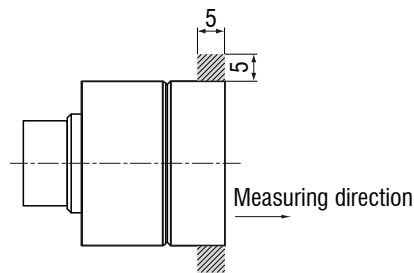

Fig. 5 Free space with no metallic conductive objects
**➔** Make sure when assembling the sensor that there are no metallic conductive objects within the gray marked area, see Fig. 5. Else the linearity may be changed of the eddy current sensor by up to about 1 % of measuring range.